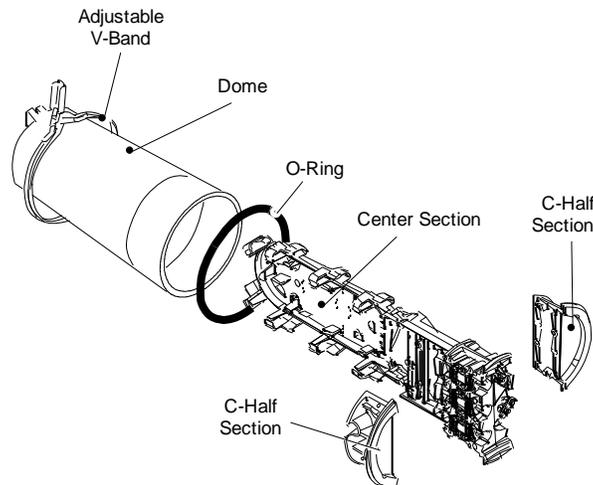

Figure 1 - Components of the LG350 Closure
1.01 The LG 350 Sealed Fiber Optic Splice Closure provides a unique, flexible fiber splicing system for Fiber-in-the-Loop or distribution splicing. Typical types of cables that can be used in this closure are: central core shielded, central core dielectric, loose tube shielded, loose tube dielectric, ribbon shielded, ribbon dielectric. Also, the closure incorporated a unique cable clamp design that secures the cable and allows the dome and C-Half sections to be removed with out disturbing previously installed cables. The LG-350 consists of five (5) main components. Refer to **Figure 1**.